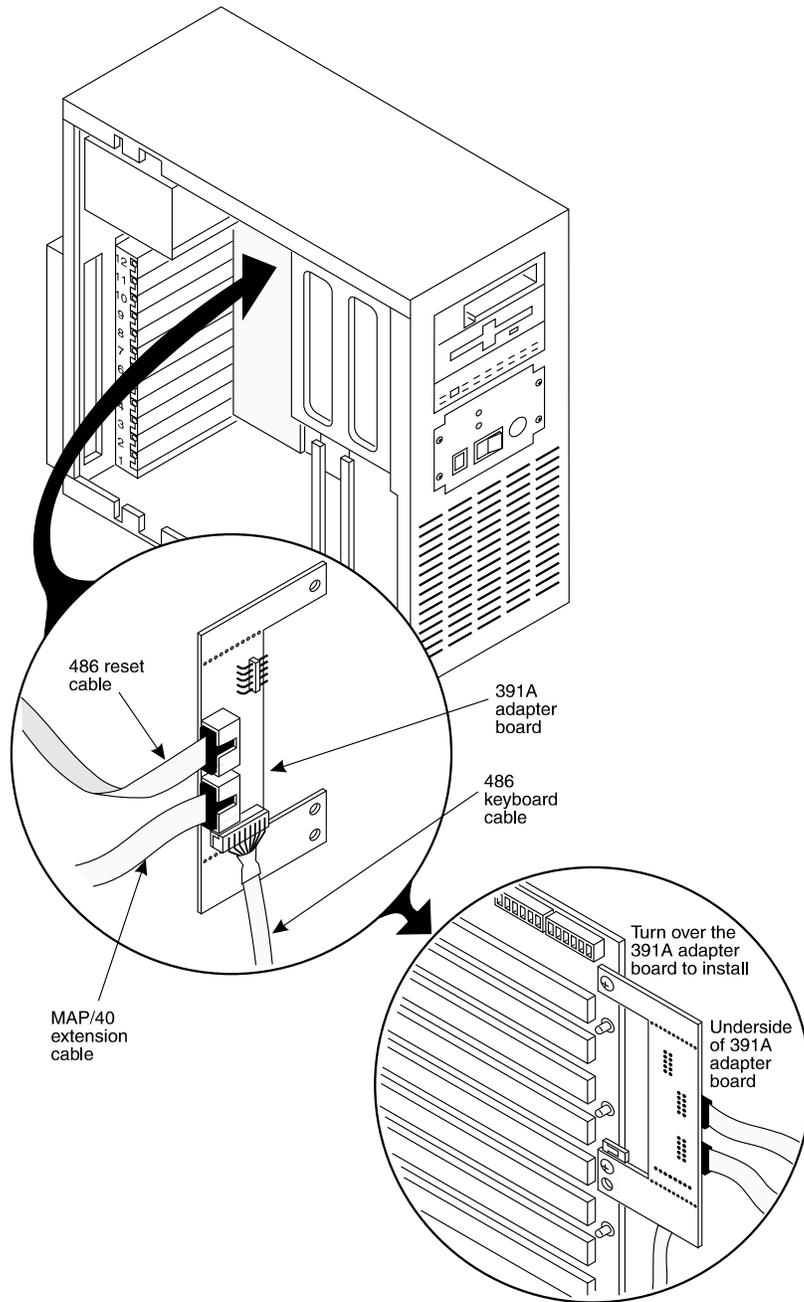

Figure 4-2. CPU/RMB Keyboard Adapter Installed in the MAP/40
- d. The disk activity cable will be connected to the new SCSI controller card after it is installed. Should this cable become accidentally disconnected from the backplane, it can be reconnected to J19. See Figure 4-2.
3. Install the CPU/RMB keyboard adapter with assembled cables onto the backplane. The adapter must have the headers facing away; the adapter should form the shape of a “U.” See Figure 4-2.